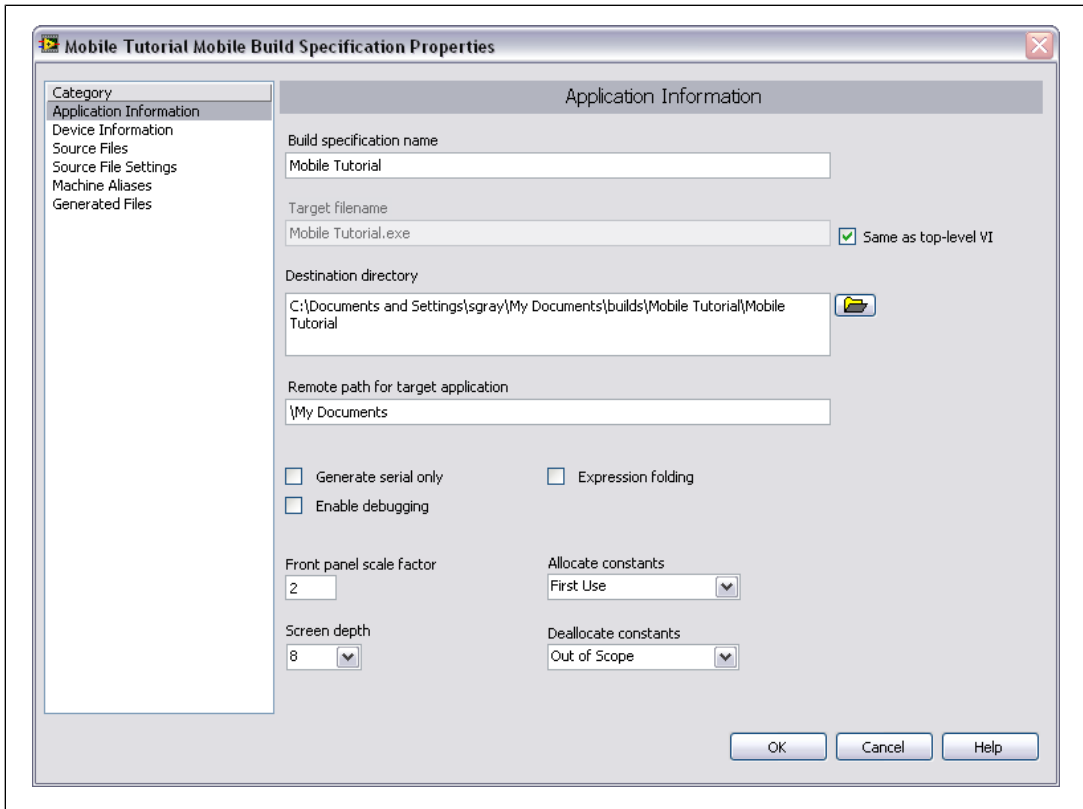

Figure 4. Defining the Application Information
1. Define the settings for the Mobile application, as shown in Figure 4.